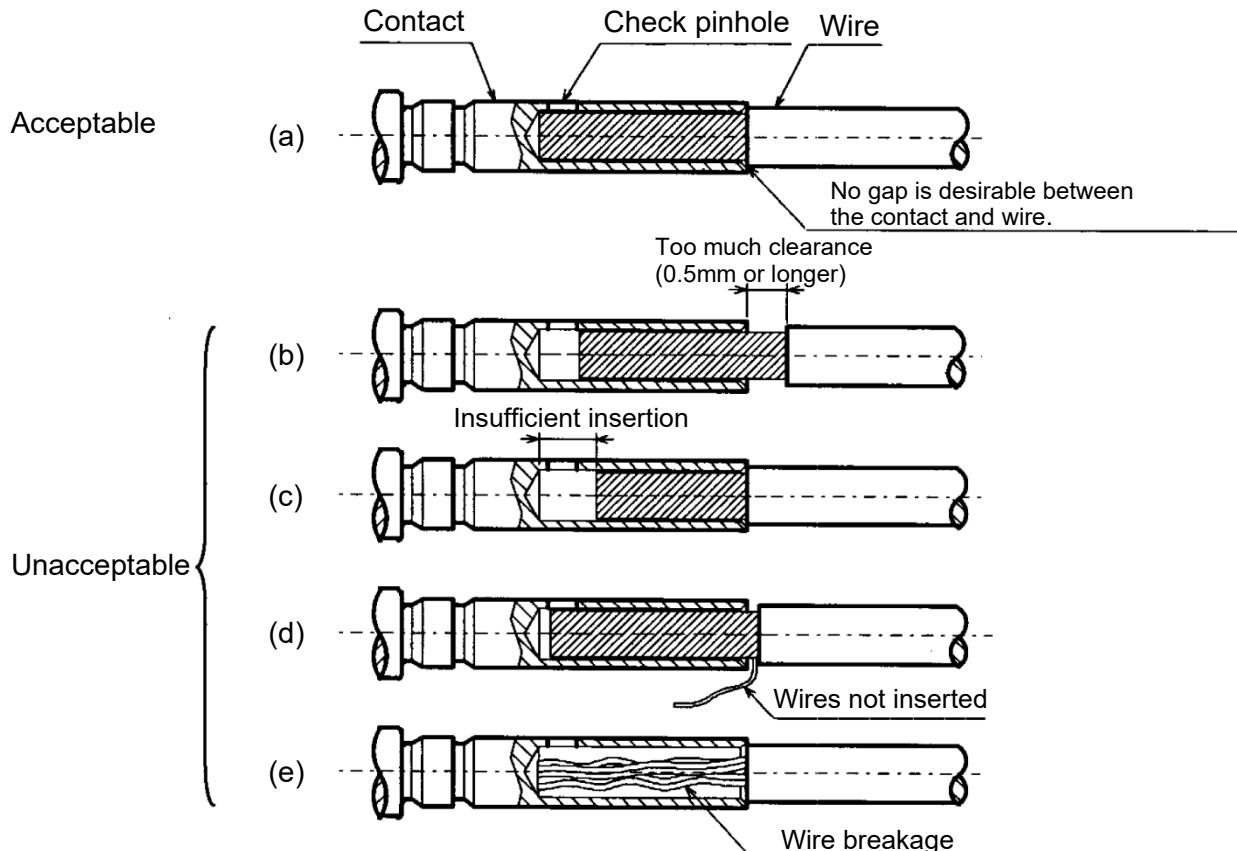

Figure 11. Wire Insertion
- (1) "L" length is a recommended dimension. Use an appropriate length according to wire type and wire insertion condition (Figure 11).
- (2) Ensure not to damage or lose the individual wires while stripping. Keep the stranded wires from loosening.
- (3) For jackets which are difficult to remove, part of the jackets may stick to the conductor. Remove any jacket fragments from the conductor.
- (4) Perform crimping or soldering immediately after removal of the jacket before the conductor surface is oxidized.
Insert the bare conductor without the jacket into the contact deeper than the check pinhole on the contact (See Figure 11).
- (a) The wire insertion condition shall not be any of “unacceptable” examples shown in Figure 11.